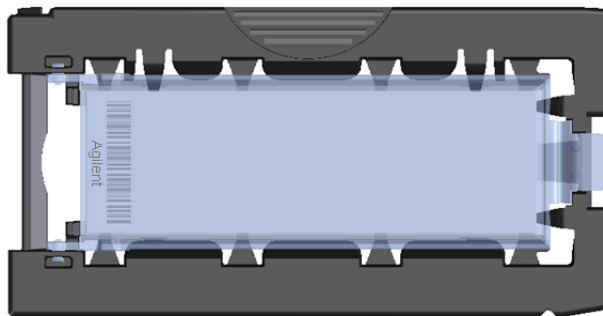

Figure 19. Slide inserted in slide holder – cover closed
- f** Close the plastic slide cover, gently pushing on the tab end until you hear it “click”. See **Figure 19**. Make sure that the slide holder is completely closed.